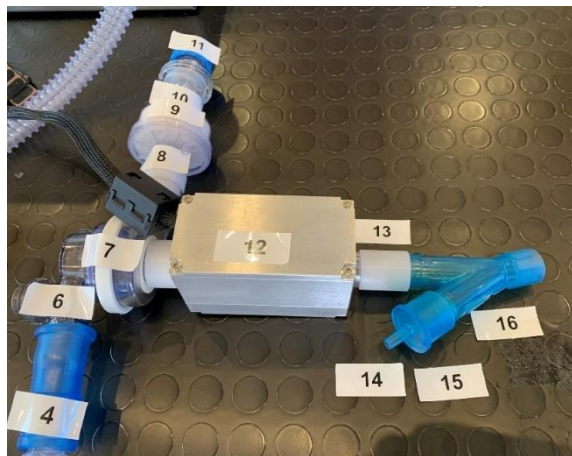

Figure 4.29: Connecting the ABU Y-connector ensemble (14-15-16) to the ABU sensor Y-connector fitting (13).
- 22- Connect the ABU Y-connector ensemble (14-15-16) to the ABU sensor Y-connector fitting (13), as shown in Figure 4.29.